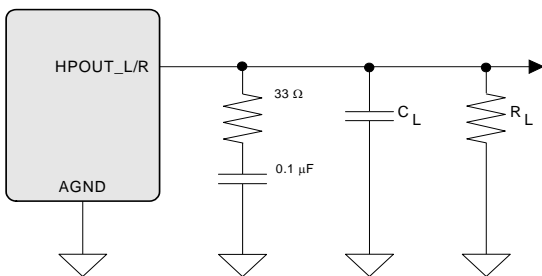
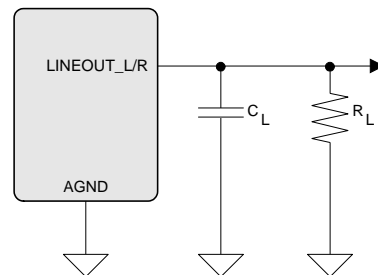

Figure 3. Output Test Load, Headphone Out
Figure 4. Output Test Load, Line Out
(Test conditions (unless otherwise specified): Input test signal is a full-scale 997 Hz sine wave; $V_D = 1.8\text{ V}$; $V_{L_HD} = V_{L_IF} = 3.3\text{ V}$; $T_A = +25^\circ\text{C}$; Measurement bandwidth is 10 Hz to 20 kHz; test load $R_L = 10\text{ k}\Omega$, $C_L = 10\text{ pF}$ for the line output and test load $R_L = 16\ \Omega$, $C_L = 10\text{ pF}$ for the headphone output (see Figure 3); DAC Gain = 0 dB).
7. See Figure 3 and Figure 4. R_L and C_L reflect the recommended minimum resistance and maximum capacitance required for the internal op-amp's stability and signal integrity.